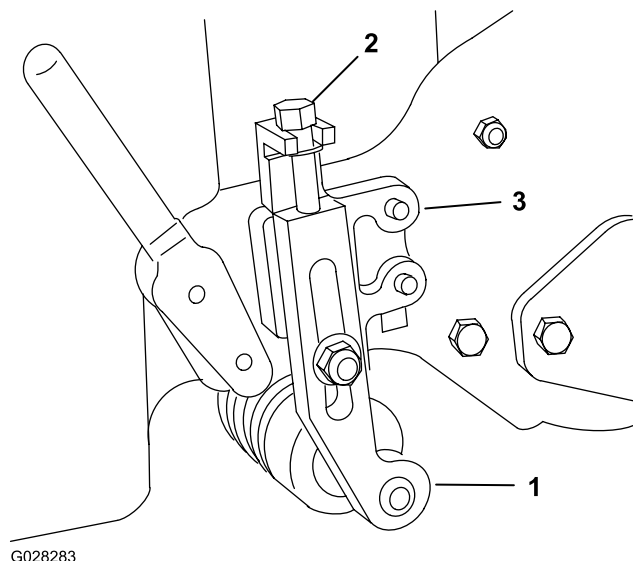

Figure 4
1. Remove the locknuts securing the height-of-cut arms to the height-of-cut brackets (Figure 4).
3. Remove the adjusting screw from the height-of-cut arm (Figure 4).